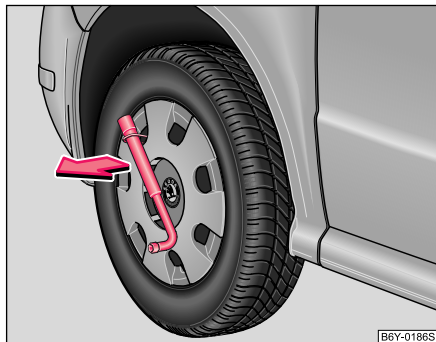

Fig. 142 Removing the full wheel trim
- Push the wheel key through the clamp, support the wheel key on the tyre and pull off the wheel trim ⇒ **fig. 142**.